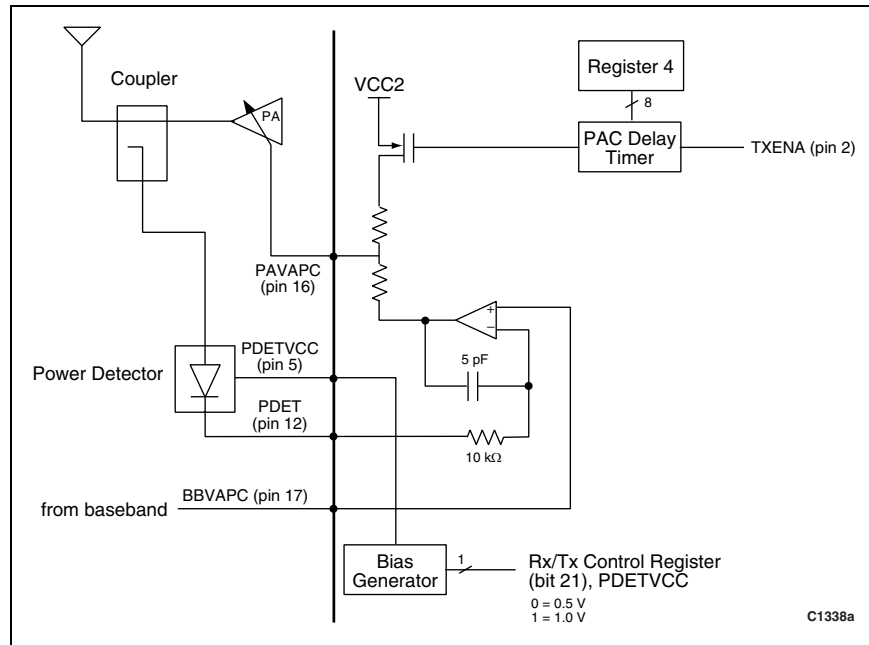

Figure 8. PA Controller Block Diagram
The device contains an error amplifier/integrator to provide transmit burst control for an external power amplifier (PA). As shown in Figure 8, when the device is connected to a PA, an RF detector, and a coupler, a loop is formed that controls the transmit power in a multi-band wireless application. The error amplifier amplifies and integrates the voltage difference between the RF detector output (PDET) and the power control input (BBVAPC). The output of the integrator is fed to an internal gain shaper that drives the gain control input (PAVAPC) of the external RF PA. The device provides a bandgap voltage (PDETVCC) which can be used as the supply voltage for the external peak detector and can source up to 200 μ A.